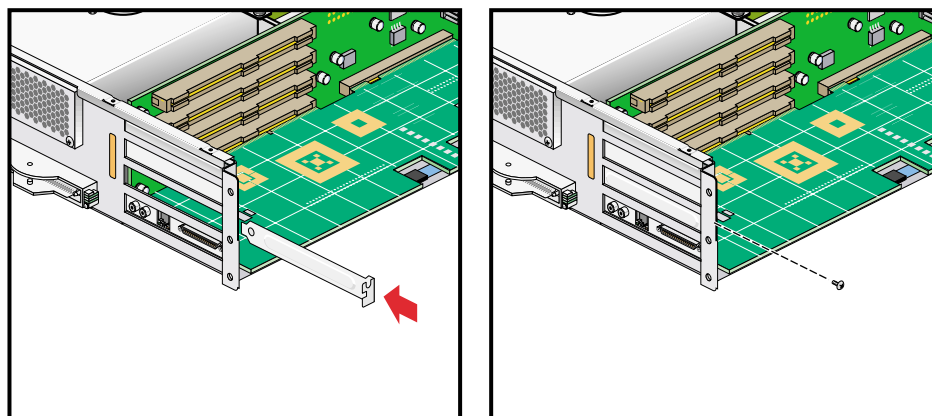

Figure 4-11 Replacing a Blanking Plate
13. Place a blanking plate to cover the slot where you removed the card, and screw in the retaining screw, as shown in Figure 4-11. After installing the blanking plate, if you have removed a card from one of the two lowermost slots, proceed to the next step. Otherwise, proceed to step 14.